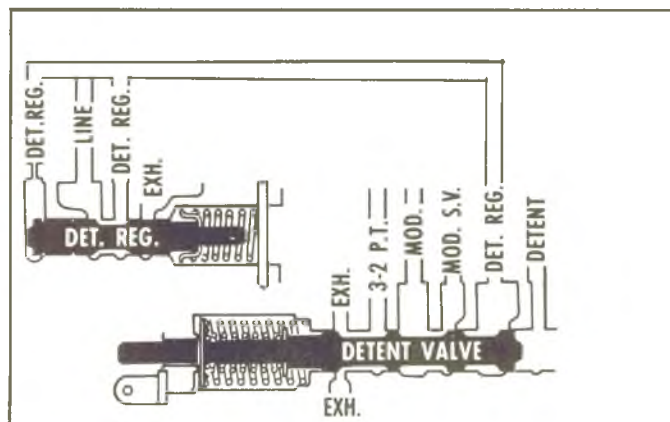

Fig. 15M—Detent Valve and Pressure Regulator Valve
**Detent Pressure Regulator Valve (Fig. 15M)**